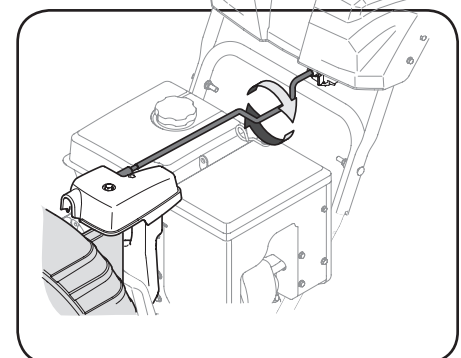

Figure 3-10
4. Grasp indented portion of chute control rod and manually rotate chute assembly to the right or to the left. See Figure 3-10.